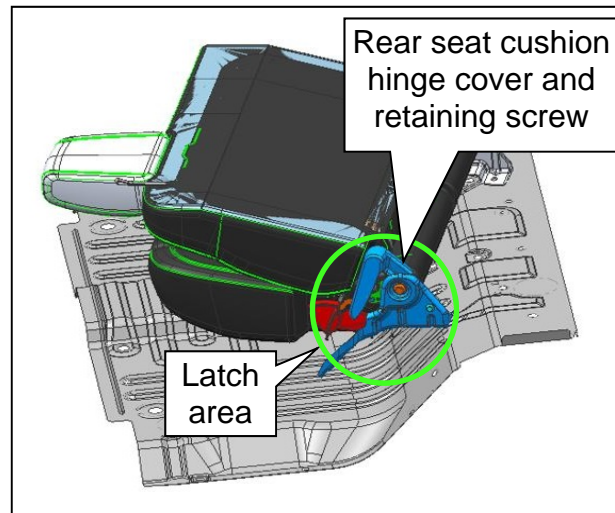
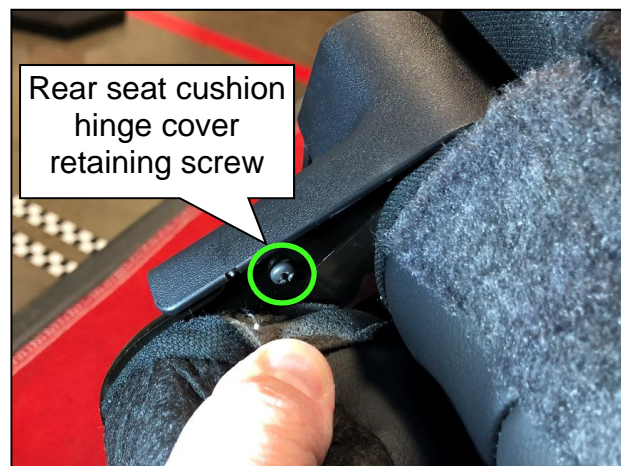

Figure 1
Figure 2
2. Pivot the driver (LH) side of the rear seat forward to access the latch area.
HINT: Figure 1 - Figure 17 on pages 2 - 7 display the driver (LH) side, the passenger (RH) side is similar.
3. Remove the rear seat cushion hinge cover retaining screw (Figure 1 and Figure 2).